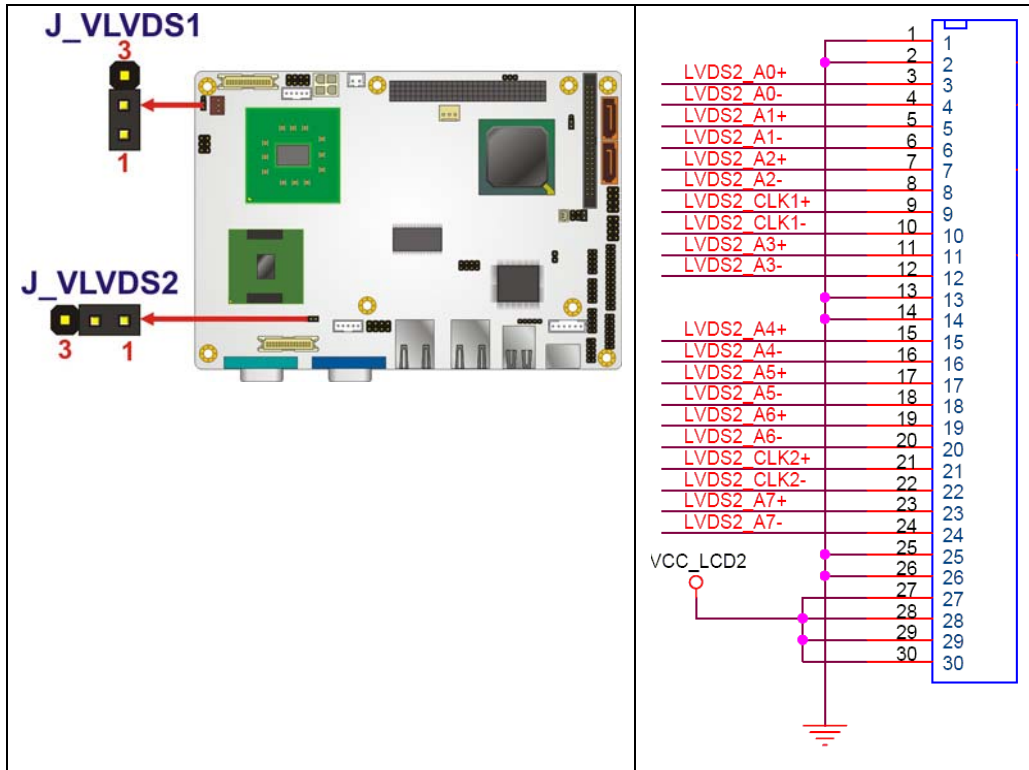

Figure 4-15: LVDS LCD Connector Pinout Locations
- CN Location:** See Figure 4-15